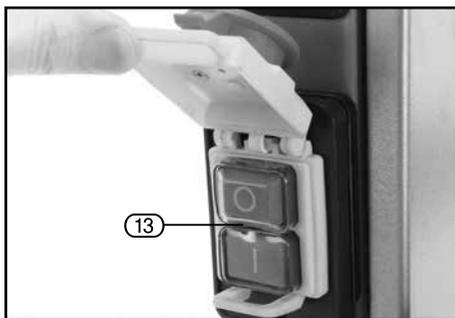

FIG. 8
9.1 NO-VOLT ON/OFF SWITCH – FIG. 8